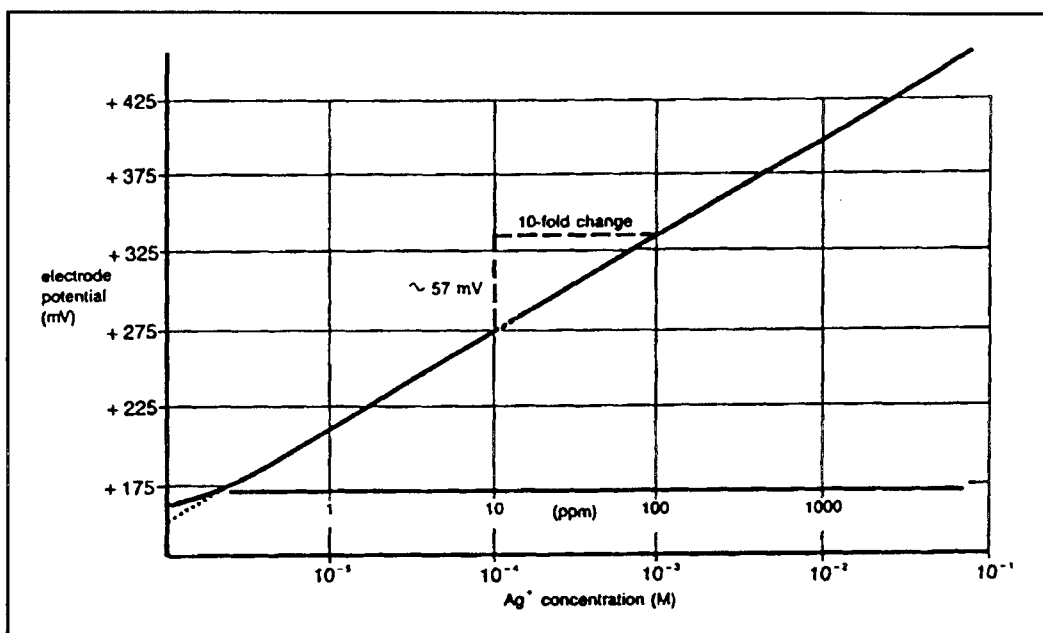

Figure 1. Typical Silver Electrode Calibration Curve
5. Using the semi-logarithmic graph paper, plot the mV reading (linear axis) against concentration (log axis). Extrapolate the curve down to about  $2.0 \times 10^{-6}$  M or 0.2 ppm. A typical calibration curve can be found in Figure 1.